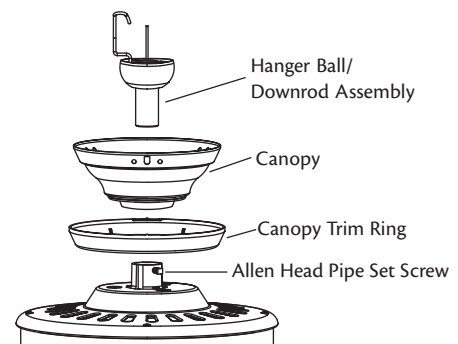

Figure 13 - Assembling the downrod
- Insert the downrod through the canopy and canopy trim ring as shown in Figure 13. Feed wires from the fan through the downrod.
- Screw the downrod into the fan assembly until tight. **IMPORTANT!** Tighten allen head set screw as shown in Figure 13 with the included allen wrench.